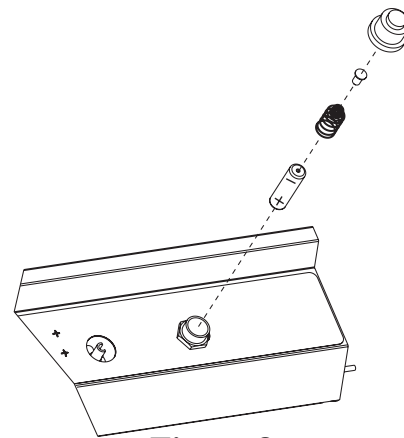

Figure 8
- Re-attach the ignitor to the control panel, then tighten nut and insert AA battery, positive side down, and replace ignitor button. See Figure 8.